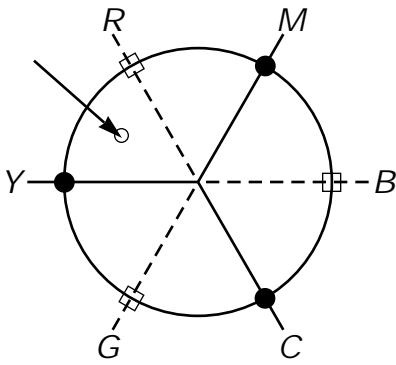

Figure 2 – In a seven ink printing scheme, orange could be reproduced using just red and yellow inks. Black could be added to darken it.
certain tints may be made up of varying percentages of all four colors. With all four colors in such close proximity, the angles must be carefully handled to avoid moiré. When using six colors plus black, it is easier to isolate colors such that in a given area only two colors are used along with black. Consider the color wheel shown in Figure 2. A particular shade of orange might fall where the circle is on the color wheel. That orange color could be reproduced using tints of the neighboring red and yellow inks. To darken it, black could be added. If the image were separated using this kind of model, it would only be necessary to assign different screen angles to the primary colors (CMY), the secondary colors (RGB), and black (K) like this: